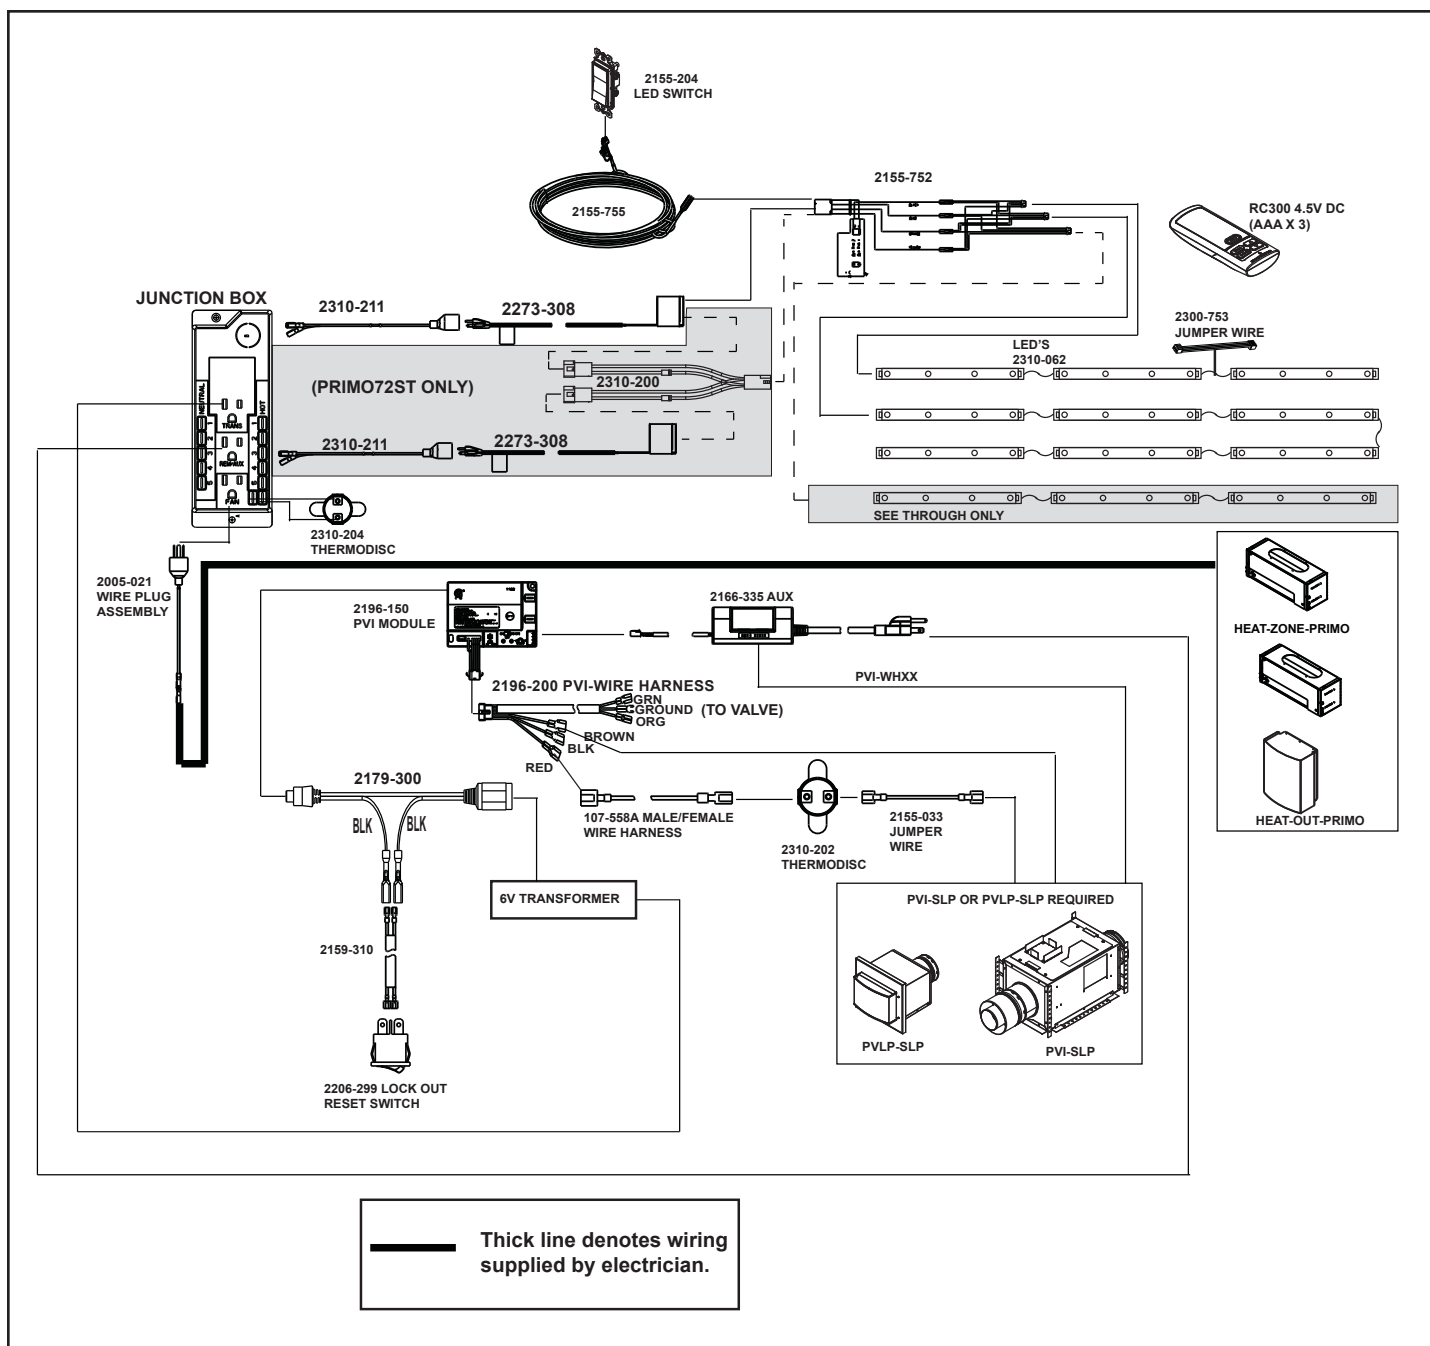

Figure 8.7 PRIMO Wiring Diagram
- Refer to Figure 8.7, IPI Wiring Diagram.